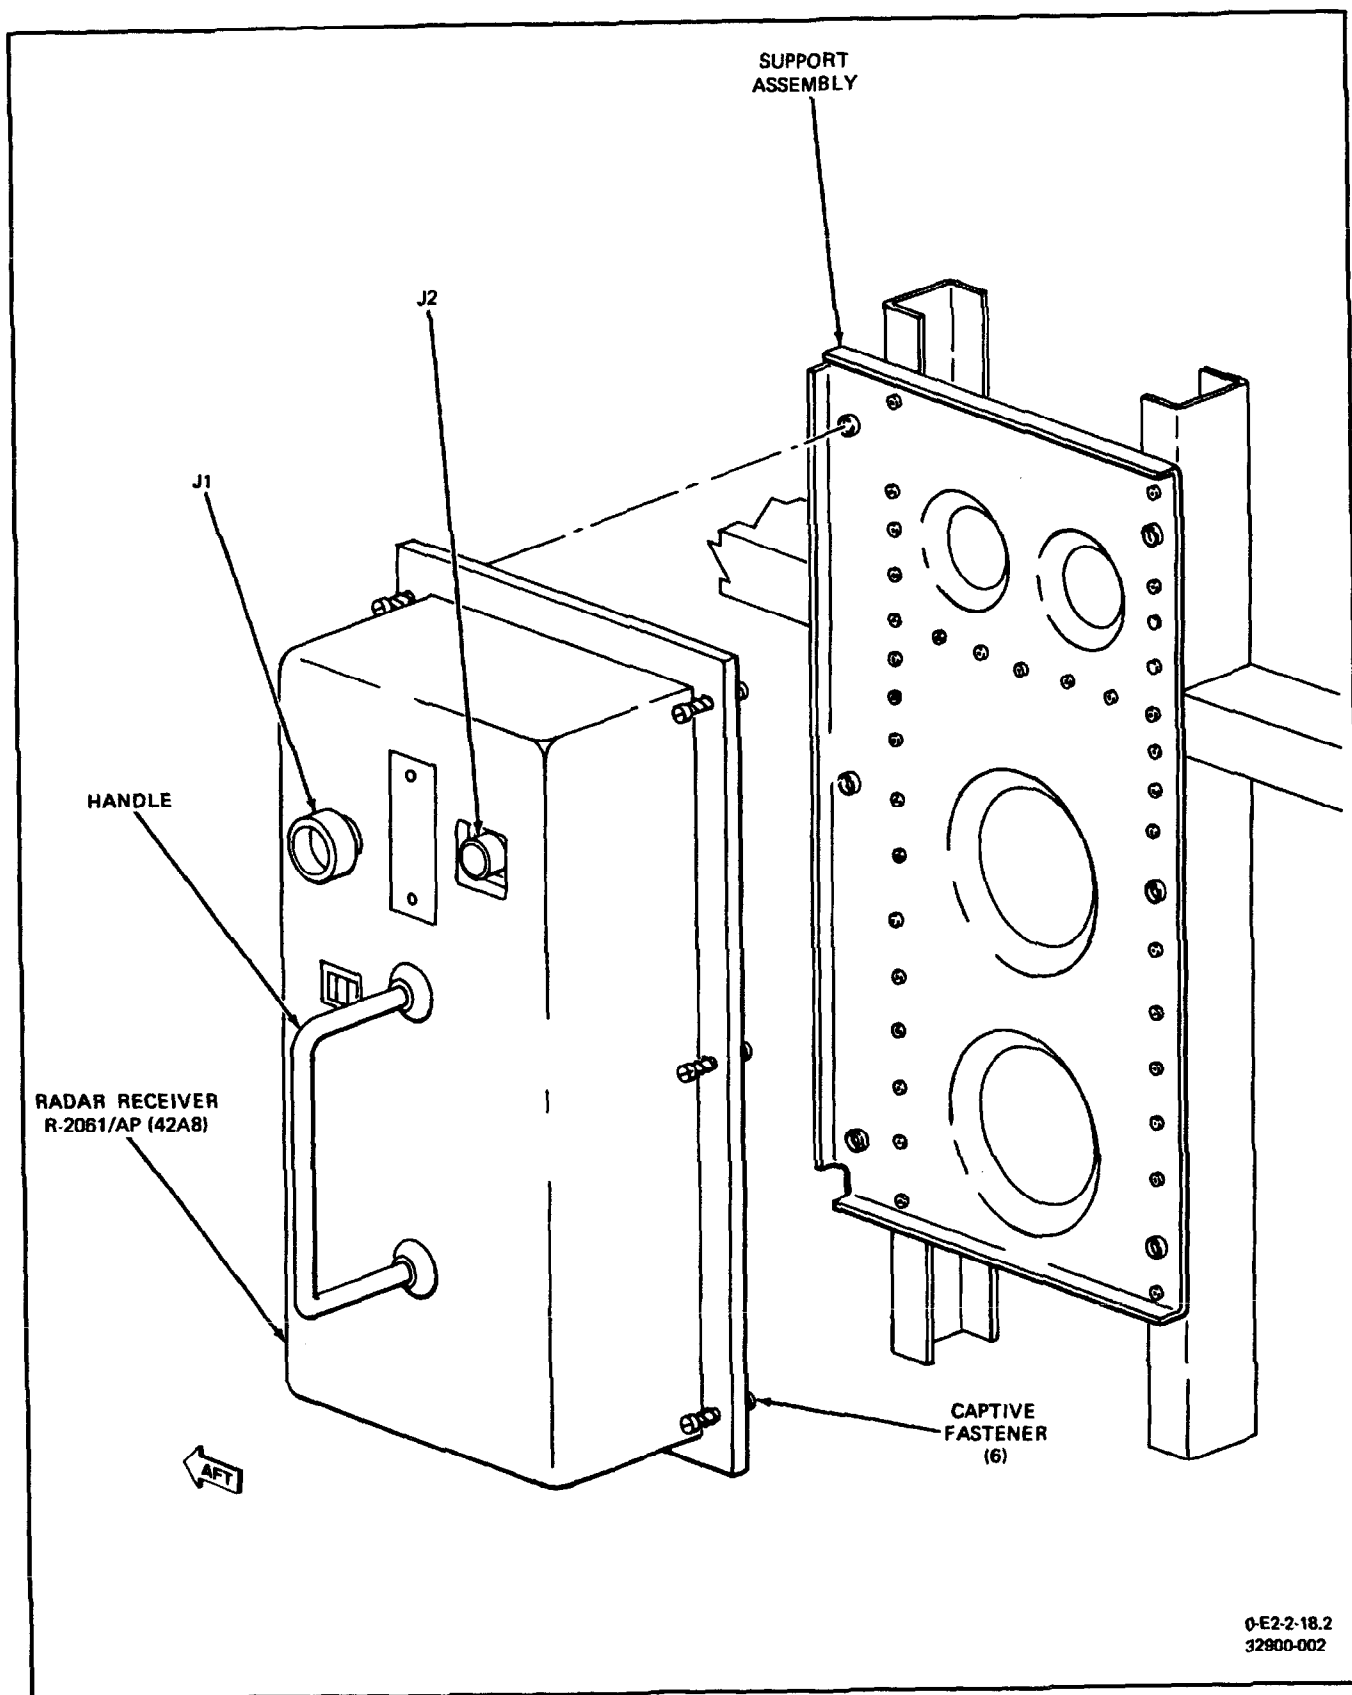

Figure 2. Removal and Installation of Radar Receiver R-2318/AP (42A8)
5. RECEIVER 42A8. (Figure 2.)
8. RECEIVER 42A8. (Figure 2.)